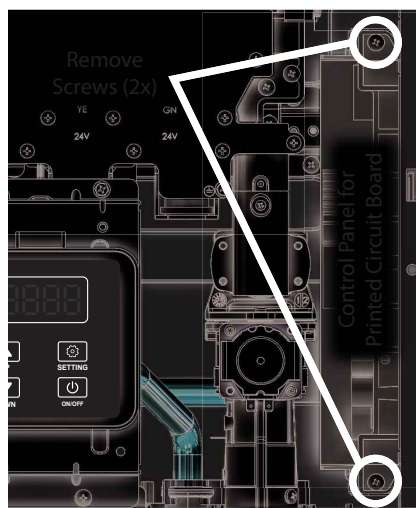

Figure 42 - Control Panel Location
- 4 Remove the two screws (top and bottom) securing the control panel to the Parent water heater. The control panel is located on the bottom right side of the water heater as shown in Figure 42.